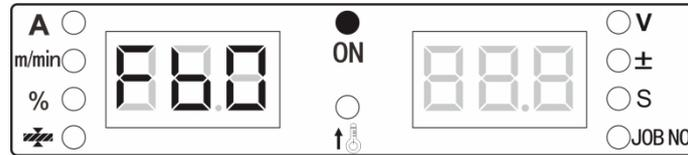

Fig. 3-18 FB0 display interface
1. Enter the internal menu, and turn the panel knob of the welding power source to **FB0**. The digital tube display is as shown in Fig. 3-18.